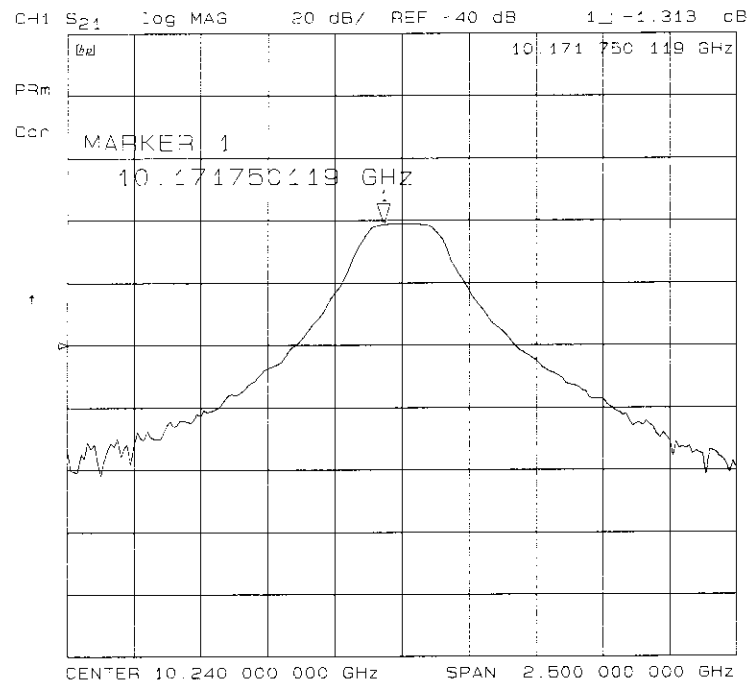

Figure 2-4. Example Measurement of Insertion Loss
3. Press **Marker** and turn the front panel knob to place the marker at a frequency of interest. Read the device's insertion loss to 0.001 dB resolution as shown in Figure 2-4.